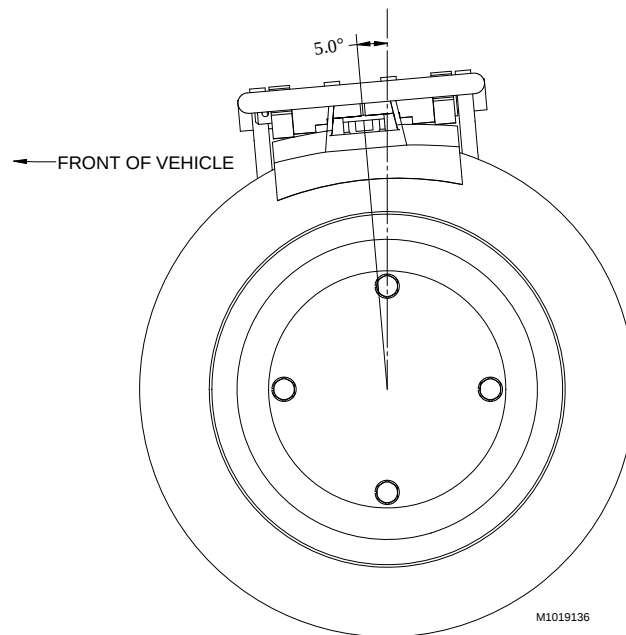

Figure 4.5.2.C Front Brake Orientation
6. The cobra brakes need to be rotated so that they are oriented in the correct position (see Figure 4.5.2.C).